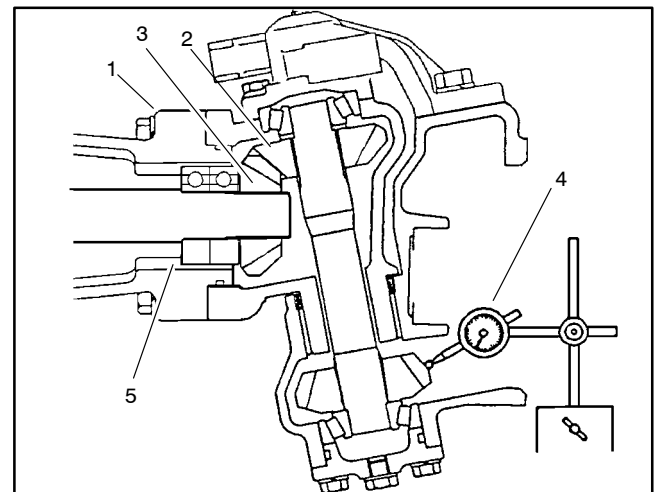

Figure 11
7. Temporarily install the bevel gear case/axle case assembly on the axle support. Position a dial indicator at the teeth center. Prevent the axle from turning and measure the upper bevel gear to differential shaft gear backlash (Fig. 11).